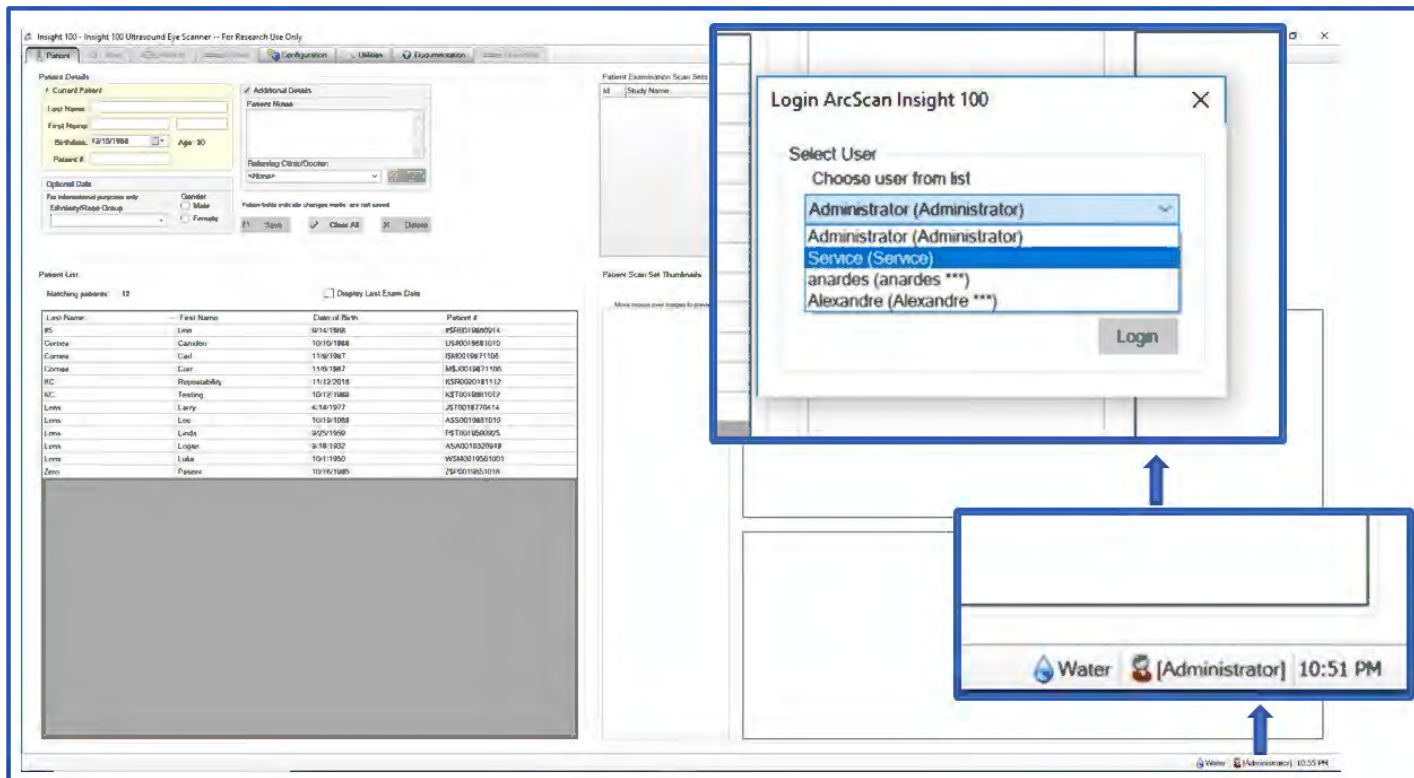

Figure 37: Instructions on how to log in Service mode
4. On the bottom right-hand corner of the software screen, log in as **Service**. The password is **33arc\$\$\$can76**. See Figure 37 as an example.
4. On the bottom right-hand corner of the software screen, log in as **Service**. The password is **33arc\$\$scan76**. See **Figure 37** as an example.